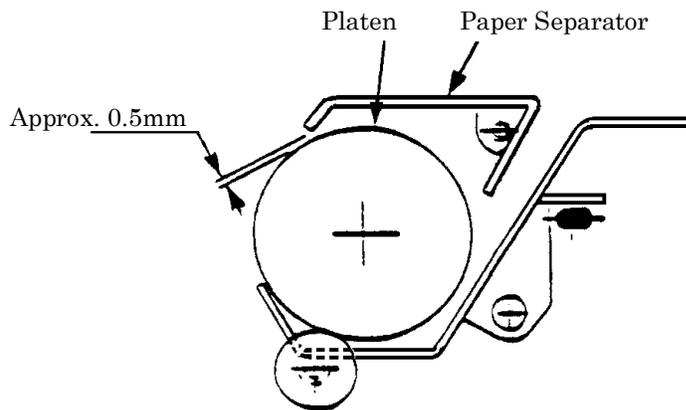

Figure 4-8. Platen/Paper Separator Adjustment
- Measure a clearance of approximately 0.5mm between the platen and the paper separator, as illustrated in Figure 4-8. Then tighten the paper separator screws.